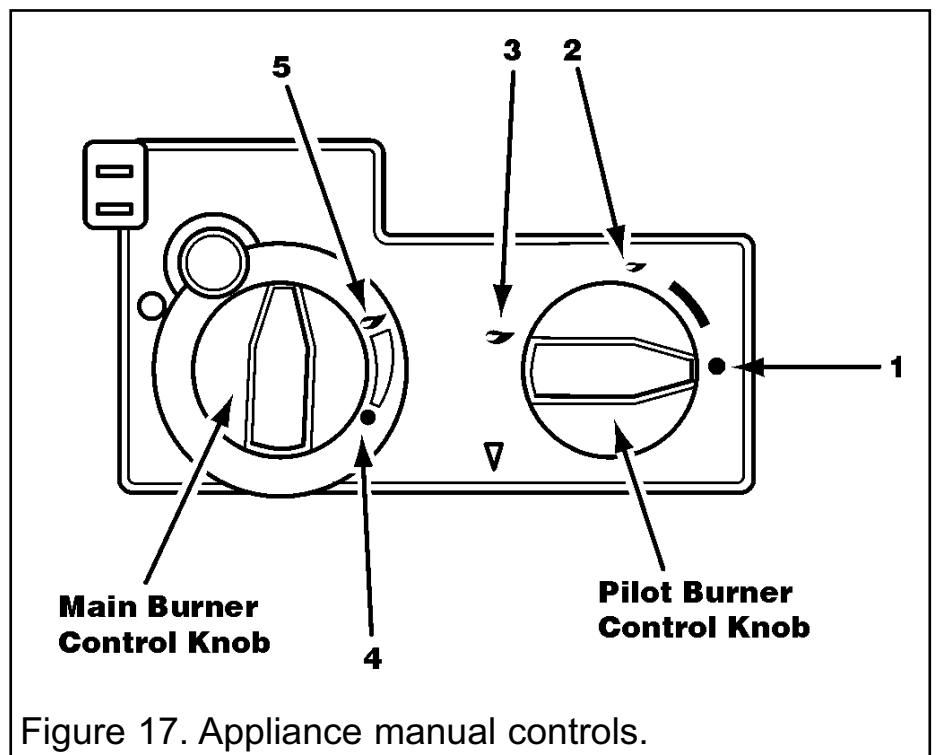

Figure 17. Appliance manual controls.
1. Ensure that the pilot burner control knob is in the OFF position (1 in figure 17).
2. Depress the pilot burner control knob and turn anti-clockwise to the ignition position (2 in figure 17) to activate the piezo ignition system. A 'click' will be heard and the pilot should light. If the pilot does not light immediately, repeat the above procedure, keeping the knob depressed for several seconds in order to purge any air from the system. If after ten seconds, ignition has not occurred, turn the
**1.** Once the pilot light is established, light the main burner by turning the pilot burner control knob anti-clockwise to the "main burner on" position (3 in figure 17), and by then turning the main burner control knob to the high position (5 in figure 17).
**2.** Check the full range of heat settings by turning the main burner control knob slowly between the high position and the low position (4 in figure 17).
Turn the main burner control knob fully clockwise. Alternatively turn the pilot burner control knob clockwise to the ignition position (2). Refer to figure 17.
Rotate the pilot/burner control knob clockwise to position 1, as shown in figure 17.
**3.** In order to disable the handset, but still leave the pilot alight, turn the pilot burner control knob to the ignition position (2 in figure 17).
**4.** Turn the fire off by rotating the pilot burner control knob to the OFF position (1 in figure 17).